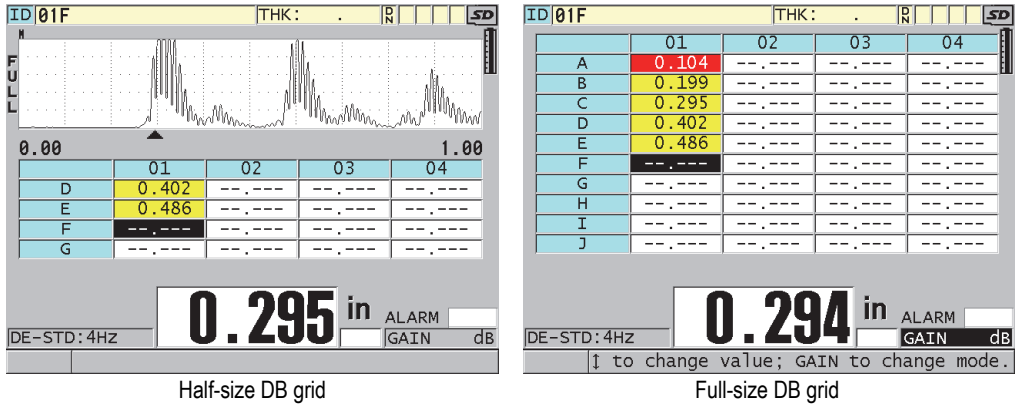

Figure 10-10 Example of half-size and full-size DB grids
5. Set **GRID SIZE** to one of the desired database grid size options (see Figure 10-10 on page 169):